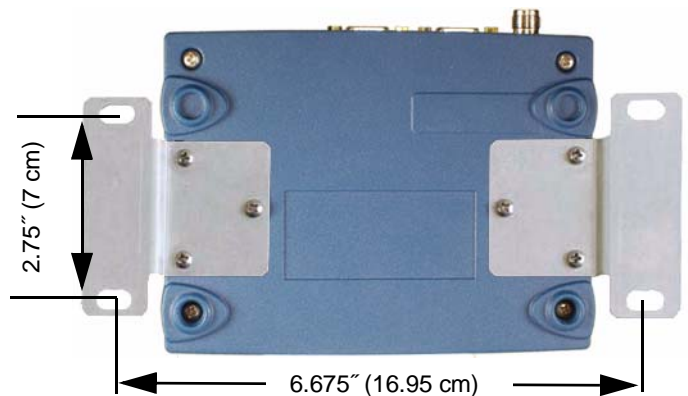

Figure 3. Mounting Bracket Dimensions
1. **Mount the transceiver.** Attach the supplied brackets to the bottom of the transceiver case (if not already attached), using the four 6-32 x 1/4 inch (6 mm) screws. Mounting bracket dimensions are shown in Figure 3. If DIN Rail mounting brackets are to be used, consult the *Technical Manual* for instructions.